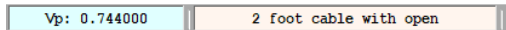

Figure 5.14 The new name of the trace after being changed in the dialog.
- Enter the new name for the trace into the dialog and click the *SET* button. You will be given a chance to confirm or reject the name change and overwrite the saved trace. If you click *Yes*, the new trace name will be displayed (Figure 5.14) and the filename for the trace will be changed to the new name.